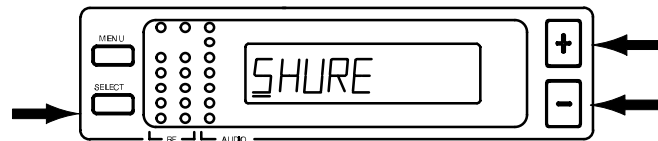

FIGURE 23
- Press the SELECT button. An underline will appear under the first character of the name. The factory pre-set Name display (SHURE) is shown in Figure 23.